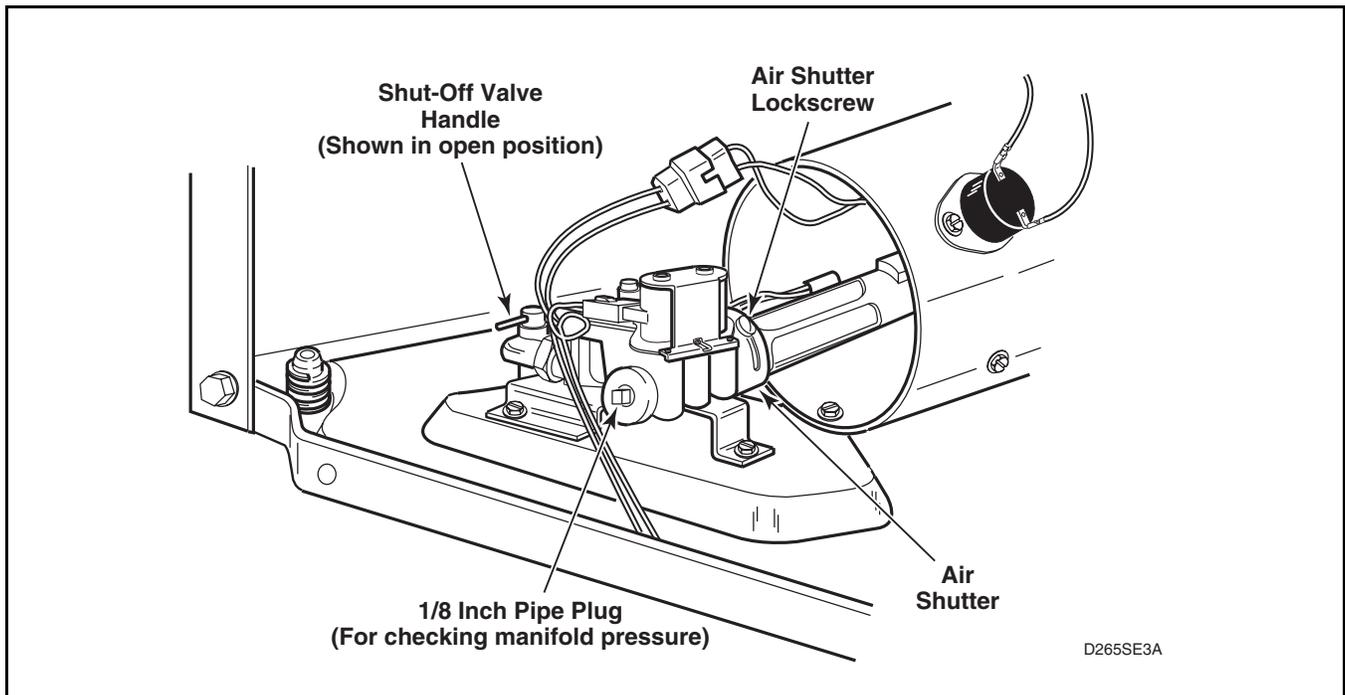

Figure 43
- e. Allow the dryer to operate for approximately five minutes, then loosen the air shutter lockscrew. Refer to *Figure 43*.
- g. After proper flame is obtained, tighten air shutter lockscrew firmly. Refer to *Figure 43*.